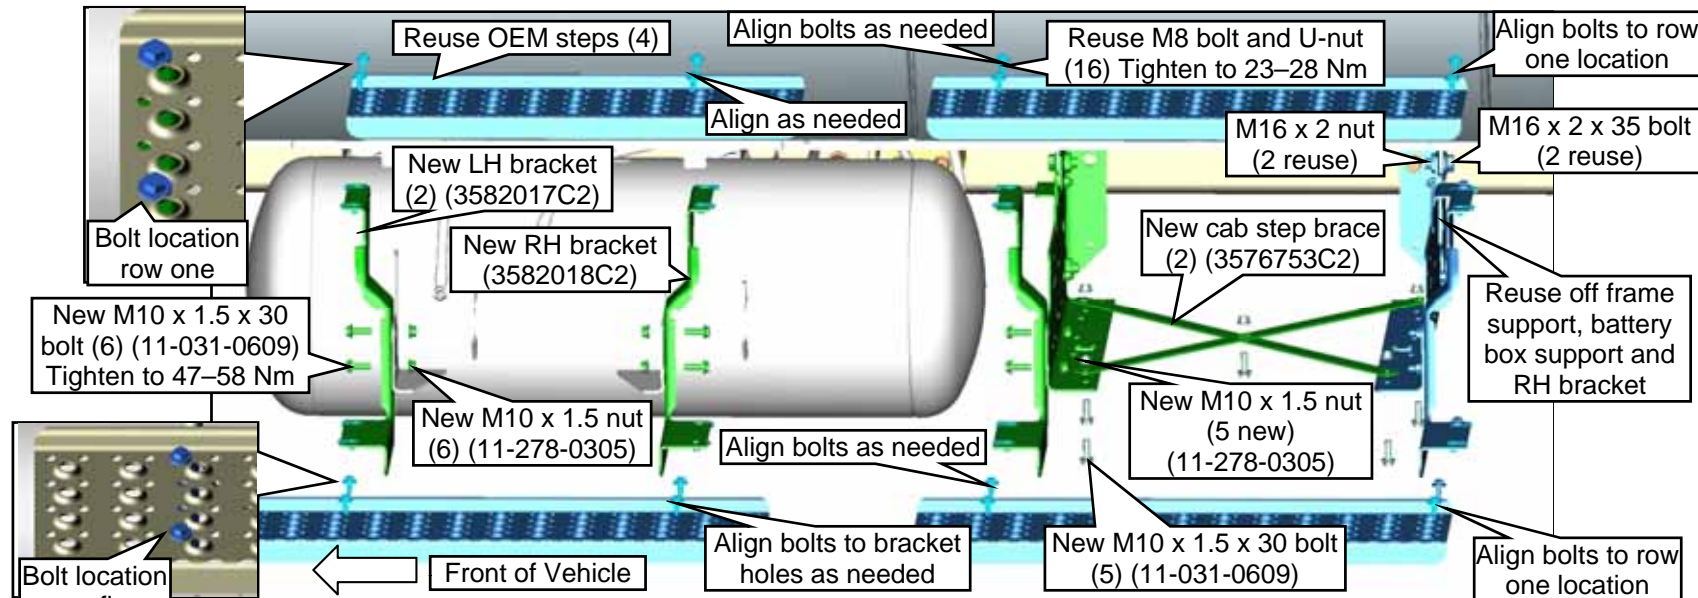
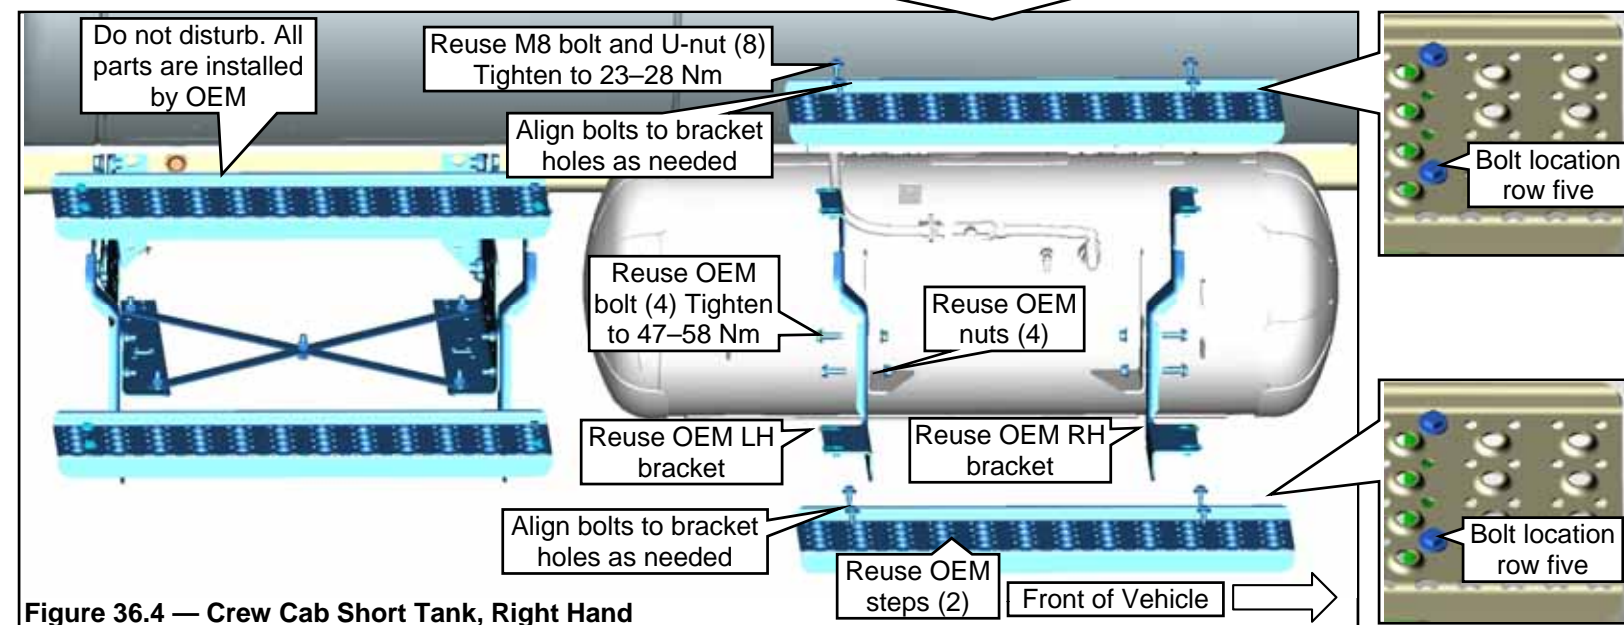

Figure 36.3 — Crew Cab Short Tank, Left Hand
Figure 36.4 — Crew Cab Short Tank, Right Hand
- Attach the new left and right step brackets to the step weldments on the left tank (front and middle). Use four new M10 x 1.5 x 30 bolts and nuts to secure the brackets. **Figure 36.3.** Attach the OEM left and right step brackets to the step weldments on the right tank. Reuse four M10 bolts and nuts to secure the brackets. Tighten all fasteners to specification. **Figure 36.4.**
- Reuse the OEM step M8 bolts and U-nuts for the left and right tanks. Install the U-nuts into the right and left step brackets. Reuse the OEM upper and lower steps for the left and right tanks and position the steps to the step brackets. Align the bolts to the front bolt locations for upper and lower, left and right steps. Align the rear upper and lower left and right steps as needed. Tighten all fasteners to specification. **Figures 36.3 and 36.4.**